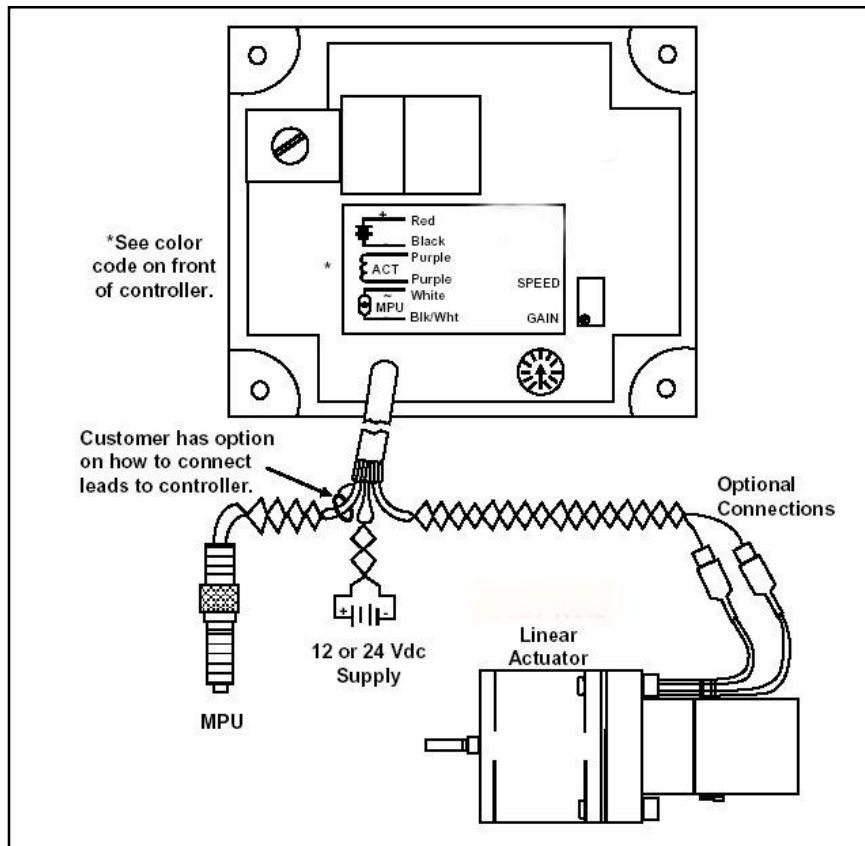

Figure 2—Basic Wiring Diagram
1. Wire the controller as shown in Figure 2.
Figure 2 illustrates basic wiring for all four controllers: